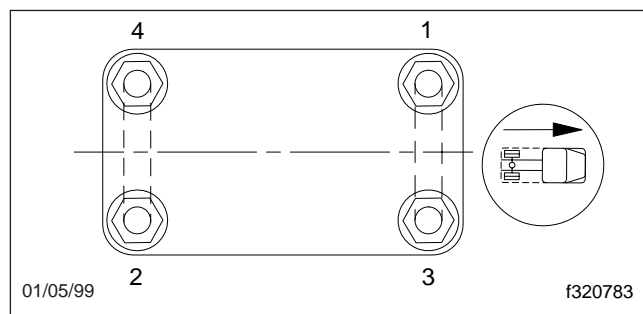

Fig. 23, Tightening Pattern for U-Bolt High Nuts
* Tighten in a diagonal pattern as shown in **Fig. 23**.